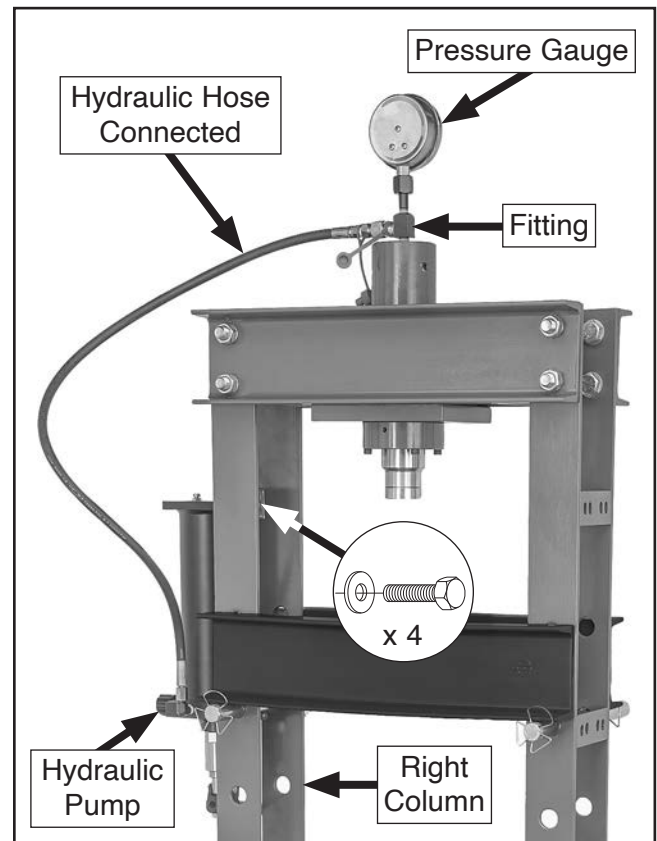

Figure 12. Location of hydraulic system components.
13. Tighten (4) set screws on ram mounting plate to secure hex bolts.
14. Mount hydraulic pump to right column with (4) pre-installed M10-1.5 x 20 hex bolts and 10mm flat washers (see **Figure 12**).
15. Remove cap from threads and attach pressure gauge to fitting on top of hydraulic ram (see **Figure 12**).
16. Remove cap from threads, and connect hydraulic hose from hydraulic pump to fitting on hydraulic ram (see **Figure 12**).